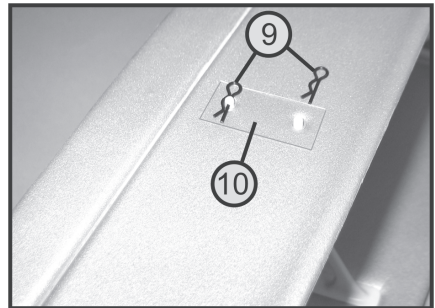

Figure 14
Then place the lower wing centrally on the model and attach it with the included rubber rings (9). The bolts of the wing braces must reach through the prepared apertures of the lower wing (see figure 14).